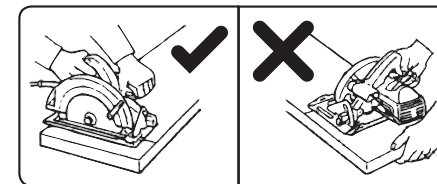

Fig. 9
2. Hold the saw with both hands by the main and the front handle (see fig. 9) and starting with the front part of the base plate, place it on the cutting surface so that the blade is touching the material that is being cut and can rotate freely. Never hold the saw with just one hand.